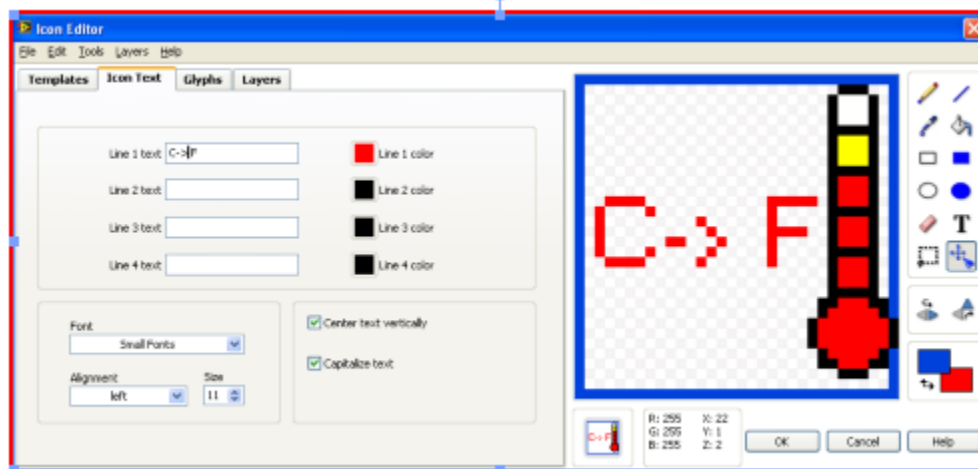

Figure 2. SubVI Icon
- Create a suitable icon editor as shown below in figure 2.